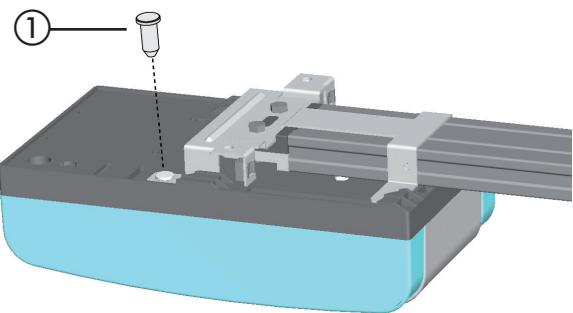
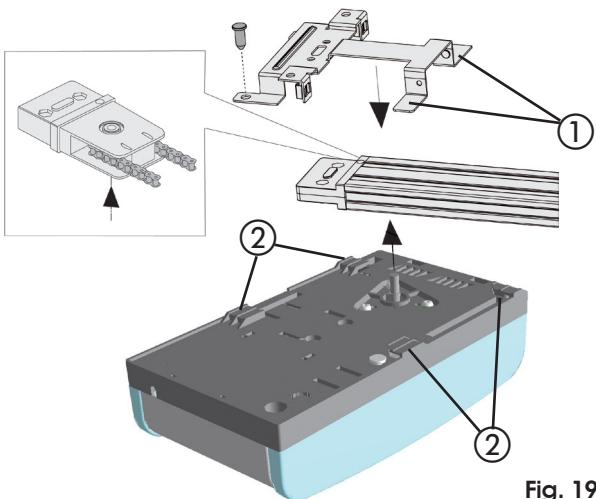
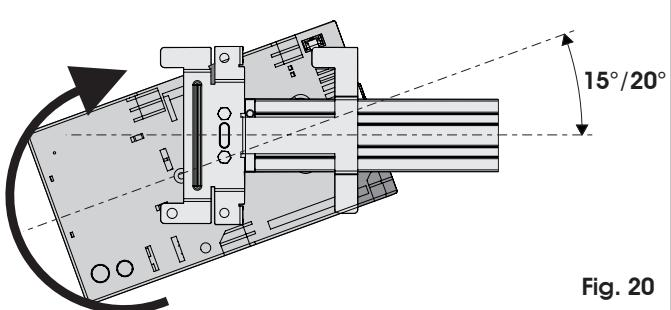

Fig. 21
Fig. 19
Fig. 20
- 1) While keeping the operator inclined at 15/20° (Fig. 20), insert the gearmotor shaft in the coupling on the rear fitting of the sliding guide and make the fins (Fig. 19 ref. ①) near to the seats at the bottom of the operator base (Fig. 19 ref. ②).
- 2) Turn the operator in the direction of Fig. 20 until you reach position of Fig. 21, and fit the pin in the hole of the rear fitting (Fig. 21 ref. ①).